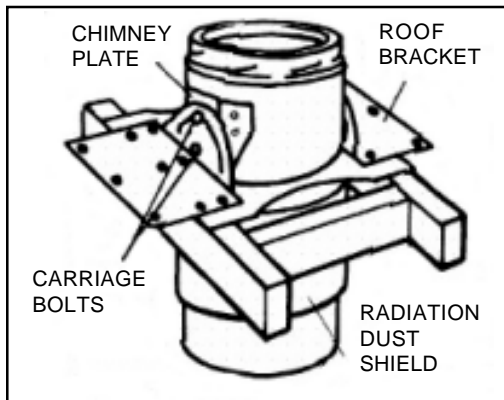

FIGURE 17
The CF Roof Support can be used with either the CF chimney or the SS chimney. The Roof Support is located on top of the joists and is installed after a Radiation/Dust Shield (SS Model) or an Intermediate Joist Shield (CF Model) is installed (when required). See figures 17 & 18. Install two carriage bolts per chimney plate in the square holes. Bend the plate to suit the curve of the chimney. Using the plate as a template, drill 3/32" holes in the casing. Attach the plates using the stainless sheet metal screws provided. Attach the roof bracket to the chimney plates using the installed carriage bolts. Set the assembly into position and adjust and tighten the carriage bolts. Screw the plate to the joist using the six (6) large wood screws per bracket. The Resupports can hold up to 9m (30') of chimney, 6m (20') of which can be suspended.